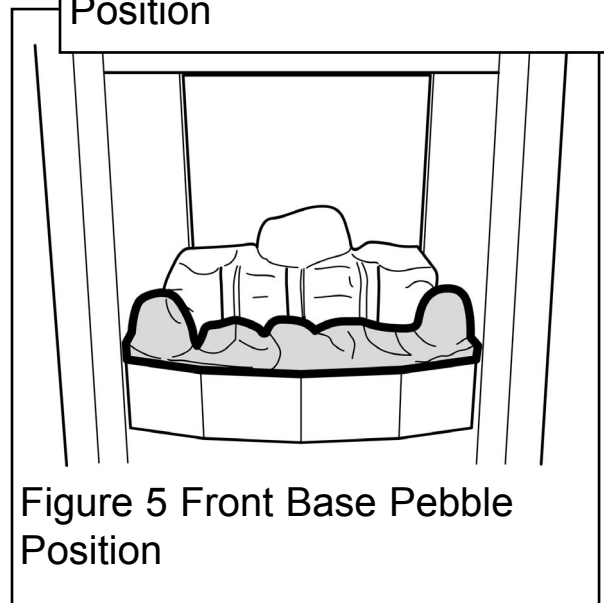

Figure 5 Front Base Pebble Position
2. Place the front base pebble in the firebox with its bottom front locating over the front rim of the firebox. Pull the pebble forward so that it locates immediately behind the front rim of the firebox. (See figure 5). The front base coal will touch the rear base coal as it is located.